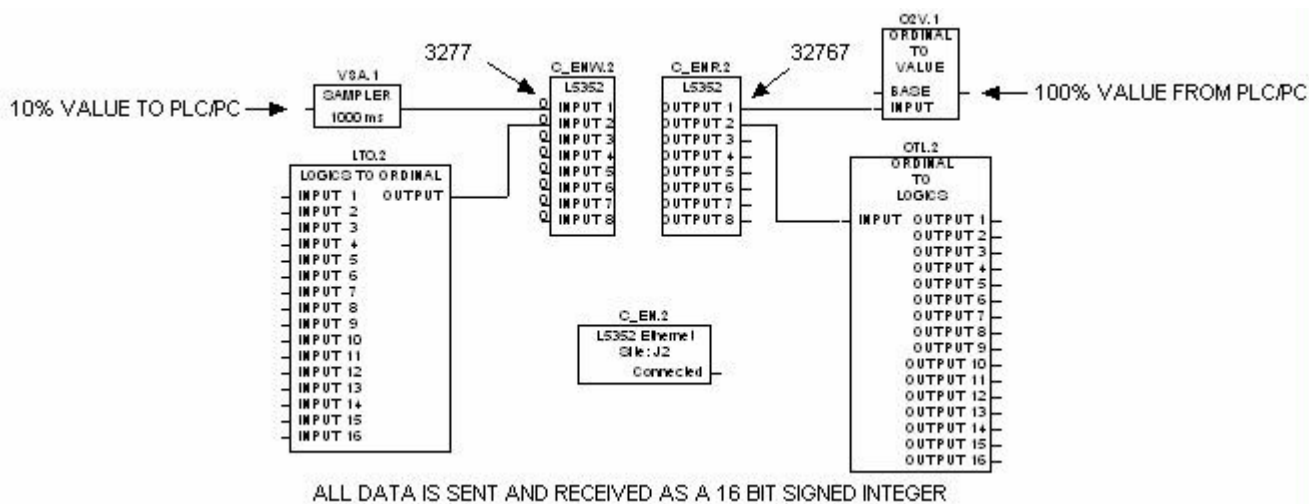

Figure 2.
1. Create a LINK configuration with Ethernet reader and Ethernet writer blocks that are required for the project. Insert the Ethernet reader blocks into the handler before inserting the Ethernet writer blocks. The LinkCard receives and transmits the data in the order the blocks are inserted into the handler. The LINK Ethernet handler block identifies the slot location in the LinkRack/LinkStation and the Ethernet IP address on your Ethernet network. Refer to Figure 2.